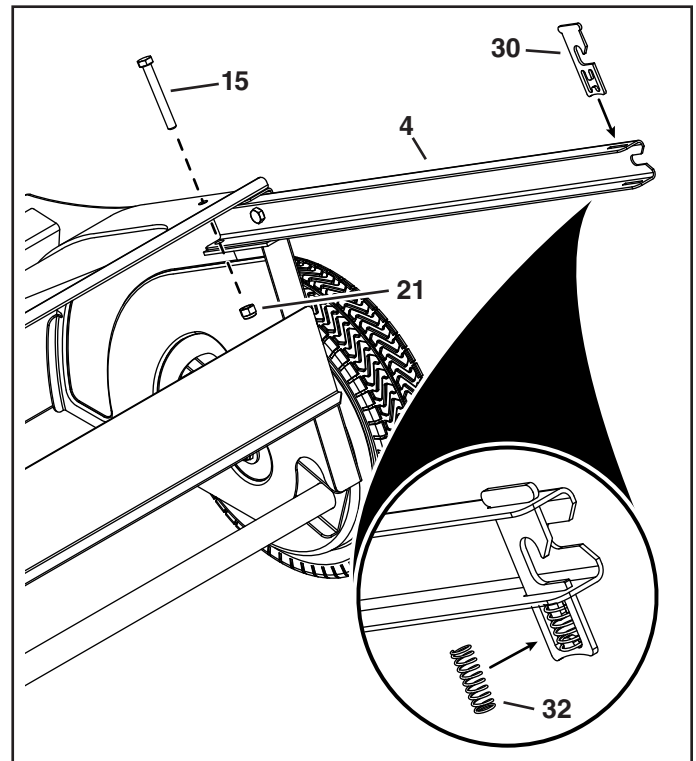

FIGURE 3
3. Secure each bag arm channel (4) to the top of the sweeper housing with a 5/16-18 x 2-1/2" hex bolt (15) and 5/16" nylock nut (21). Tighten bolt until snug. **Do not overtighten.** See figure 3.
4. Insert a pivot rod retainer (30) down into the end of each bag arm channel. See figure 3.
5. Install a compression spring (32) into the bottom of each pivot rod retainer to secure it to the bag arm channel (4). See figure 3.